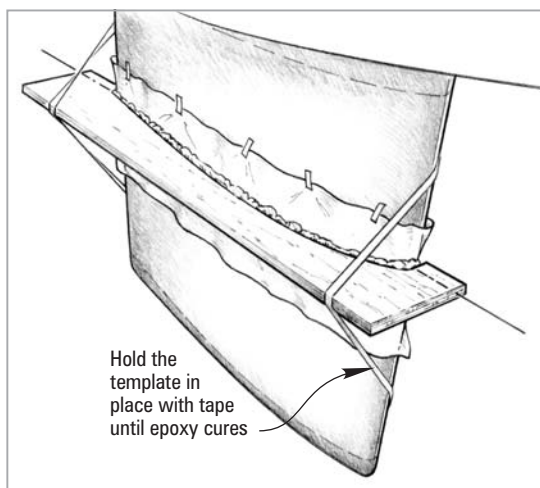

Figure 17 Press the template in place against the surface until the thickened mixture makes contact with the surface everywhere along the profile.
4. Press the template in place against the surface until the thickened mixture makes contact with the surface everywhere along the profile (*Figure 17*). Use duct tape or masking tape to brace the template in position. Fill in any gaps or displaced mixture and allow the mixture to cure thoroughly.